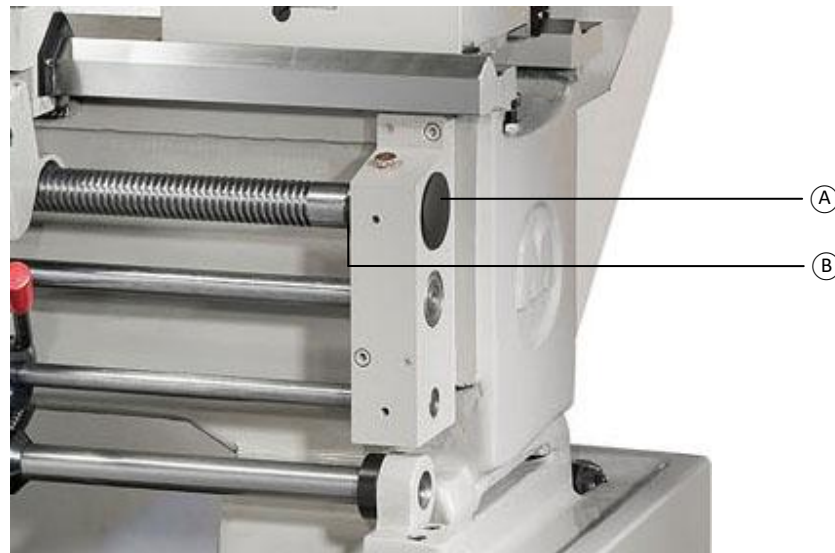

Fig. 7-8
Should the threading not repeat, the cause is most likely the leadscrew backlash. To adjust the backlash, remove the plastic cover on the leadscrew bracket (Fig. 7-8), loosen nut (A) then tighten the left side nut (B). To check the backlash, engage the half nut and while observing the connecting section of the leadscrew to the gearbox move the apron handwheel back and forth. If the backlash is properly set there should be no movement in the shaft. After adjusting, re-tighten nut (A) and replace plastic cover.